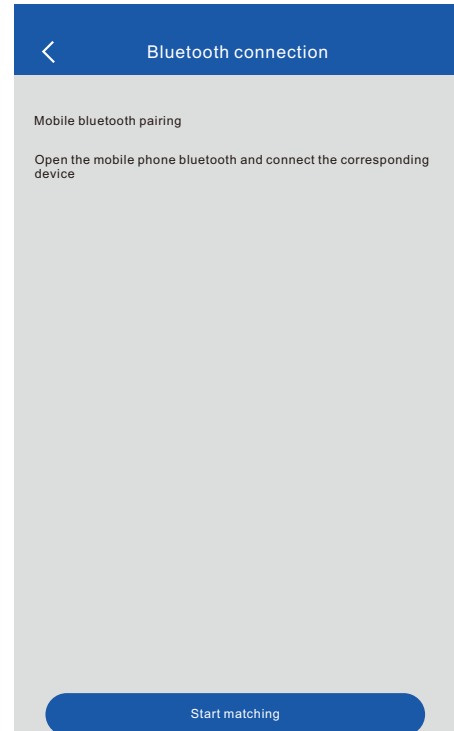

Fig.11
- ②.Click the icon of "bluetooth connection" on the login page to enter the bluetooth matching page in Figure 11, and click "start pairing" (Remark: when android user does not manually open bluetooth, it will automatically detect and prompt the user to open mobile phone bluetooth or not; or the user can manually open mobile phone bluetooth before connection, and then it will not prompt to connect directly; there is no prompt message for apple users, so they need to manually turn on the phone's bluetooth in advance, that is, open the physical bluetooth key);